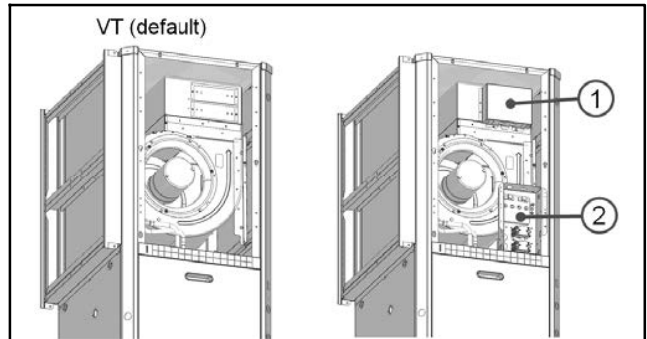
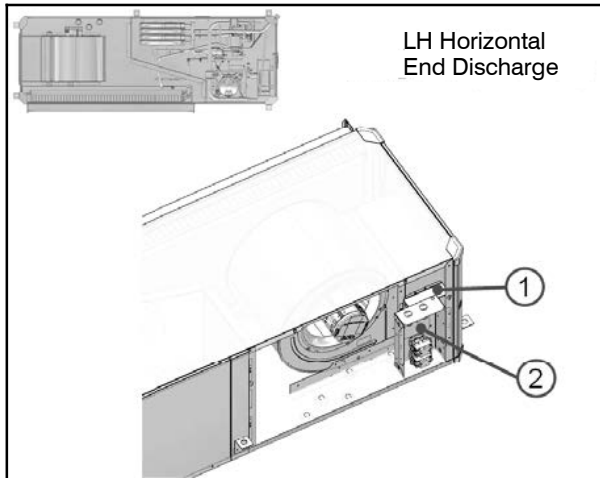

Fig. 1 — Electric Heater Element Cover (1) and Electric Heat Control Box (2) Location - Vertical Configuration
Fig. 4 — Electric Heater Element Cover (1) and Electric Heat Control Box (2) Location - LH Horiz. End Discharge Config.
The Electric Heat field installed kit contains two main electrical enclosures: Electric Heat Control Box and Electric Heat Elements, both are located in the blower compartment. (Fig. 1 through Fig. 4) The control box attaches to the corner post and the heat elements to the blower heater collar in the blower compartment.
1. Install heater control box per Fig. 1 - 4. Orient the heater control box with the contact(s) toward the bottom.